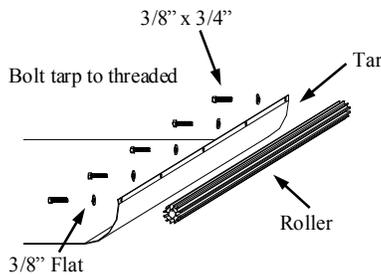

Figure 9
**Connecting the tarp to the tarp axle,** see Figure 9. Attach the tarp to the roller bar with the 3/8" x 3/4" hex bolts and washers provided as shown in figure 9.